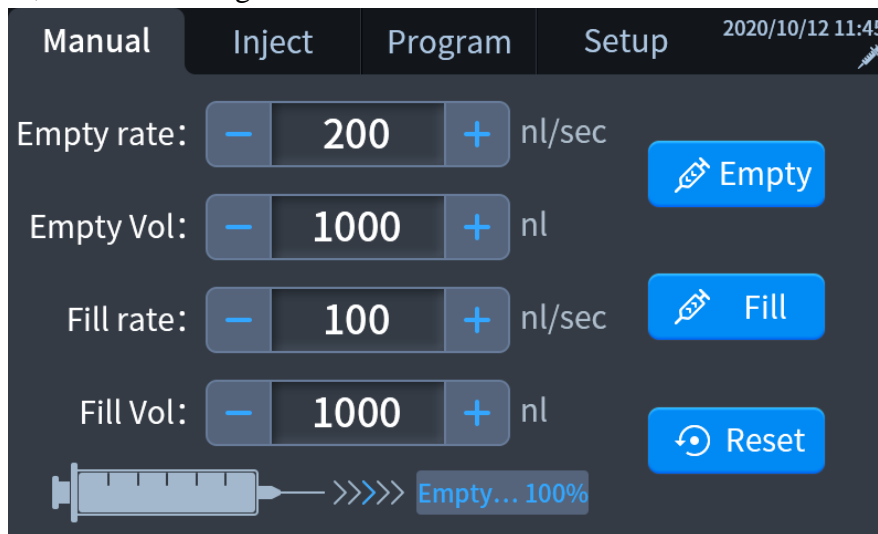

Figure 5-4
- 5) After the emptying is completed, the user will hear a beep and the progress percentage is 100%, as shown in Figure 5-4.